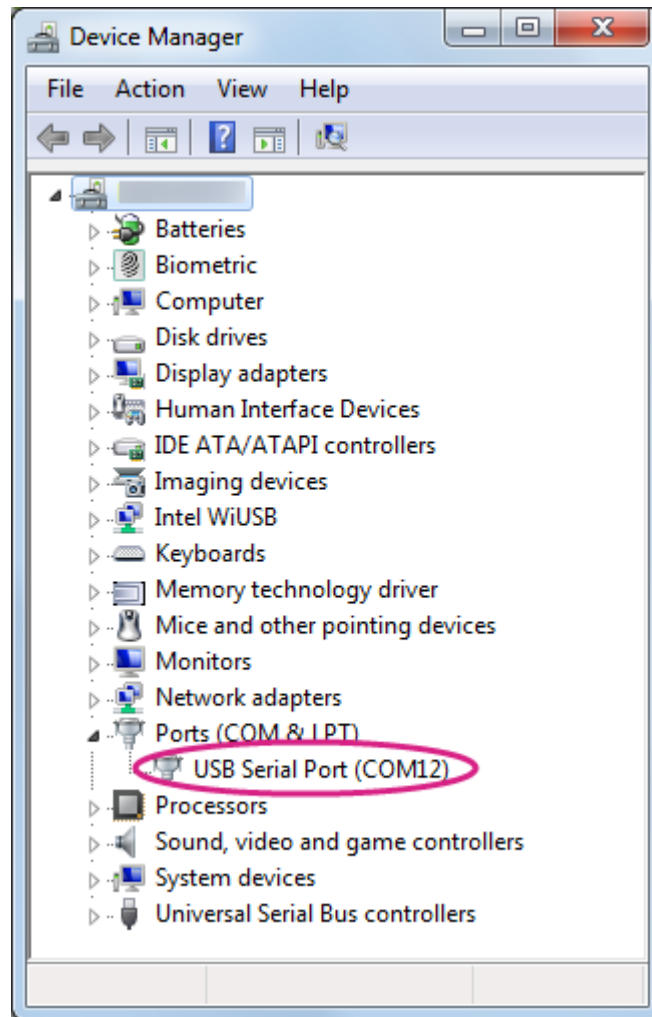

Figure 22 LinkIt Smart 7688 COM port using Serial to USB cable
- 3) After you've connected the Serial to USB cable, open the device manager and notice the COM port number as shown in Figure 22. This number may vary on different computers.